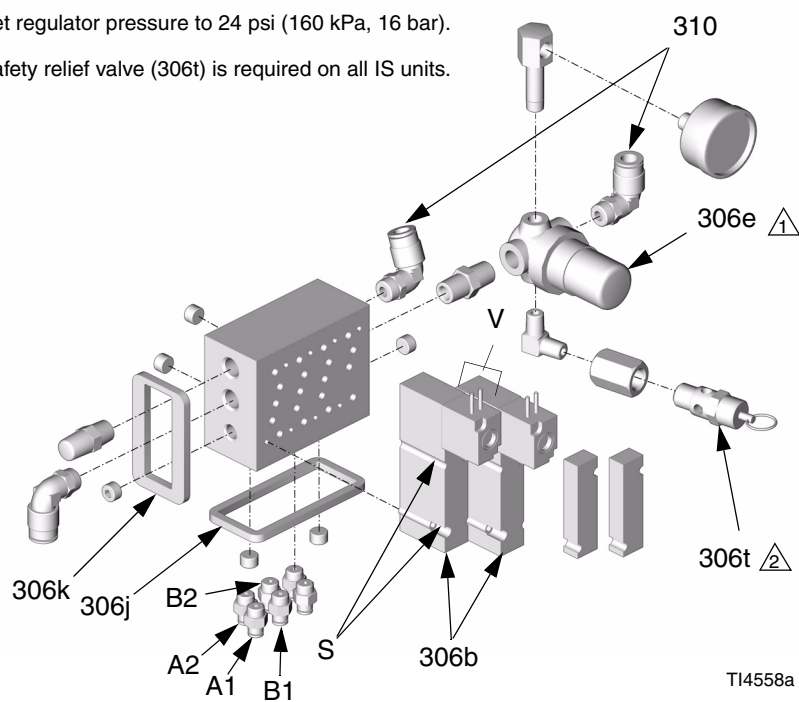

FIG. 8
2. Disconnect two solenoid wires (V) from main board. FIG. 8.
3. Disconnect dispense valve pilot lines (A1, A2, B1, B2). FIG. 8.
4. Remove two screws (S).
5. Remove solenoid module (306) with regulator (306e). FIG. 8.